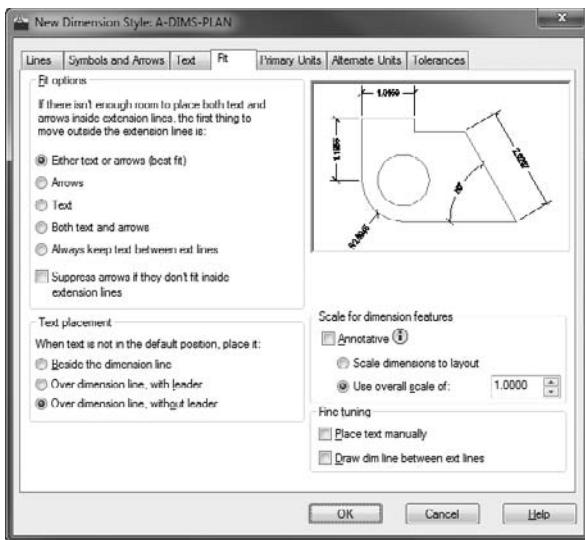

FIGURE 12.8 The new settings in the Fit tab
1. Click the Fit tab in the New Dimension Style dialog box. Figure 12.8 shows the Fit tab as you'll set it.
The settings on the Fit tab should look like those in Figure 12.8.